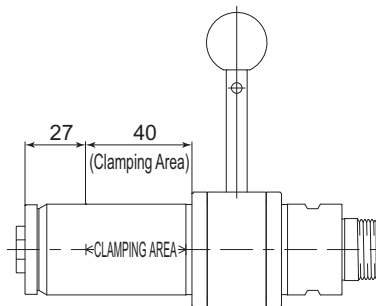

Fig. 14
① When mounting a spindle, refer to the Clamping Area etched on the spindle. (Fig. 14)